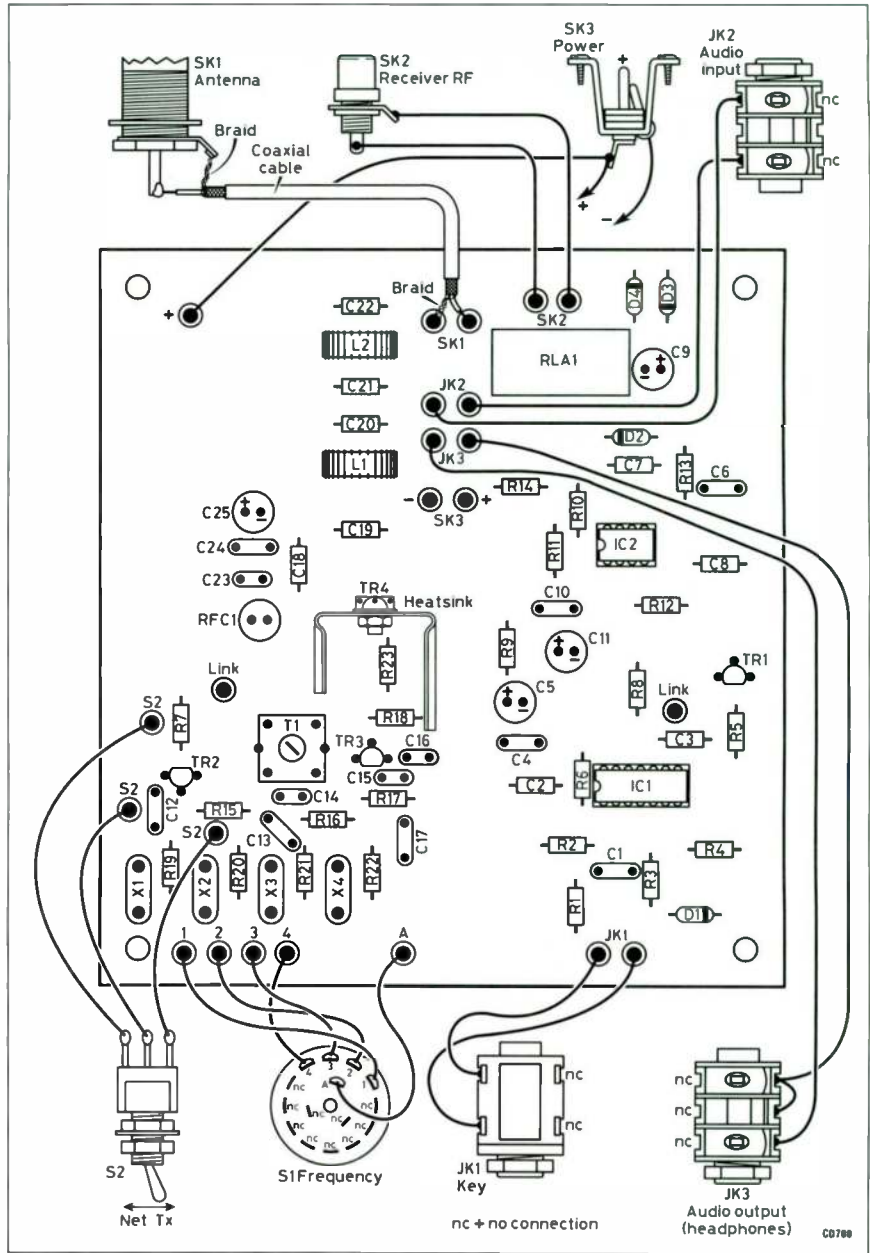

Fig 5.4. Component information and soldering
2. Fig 5.4 shows the printed circuit board component layout. Start by mounting some of the larger
7. Diodes D1 to D4 are the smallest components. They must be mounted the correct way round, as shown in Fig 5.4. Transistors TR1 to TR3 have a flat face carrying their markings. Mount them with this face in the direction indicated by Fig 5.4.
end with the wire cutters prior to soldering. Now mount L1 and L2 so that they are positioned as shown in Fig 5.4.
11. The next job is to cut and solder the various flying leads. Fig 5.4 shows what is required, but you may also wish to take a look at the case in order to gauge the relative positions of the sockets and switches – this will give a better idea of how long each lead needs to be. Consider ‘colour coding’ the leads as appropriate – for example, use cable with red insulation for the positive connections to SK3. It is preferable to make the leads slightly long at this stage as their far ends can always be trimmed before being soldered to the respective switch or socket. Also, remember that where two leads go to the same socket, they are best twisted together and this tends to make them shorter (the flying leads have not been shown twisted in Fig 5.4 for clarity).
- JK1 is mounted with its solder tags pointing upwards whereas JK2 and JK3 have their tags pointing downwards. Note the link joining two of the tags on JK3. A number of tags are left unconnected (ie those marked ‘nc’ in Fig 5.4).
them in the direction indicated by Fig 5.4. It may be necessary to bend the IC leads inwards slightly to match the spacing between the two lines of holes in the IC sockets. Integrated circuits can be damaged by static electricity (this applies particularly to IC1) so avoid wearing clothes that are known to generate static, such as nylon.